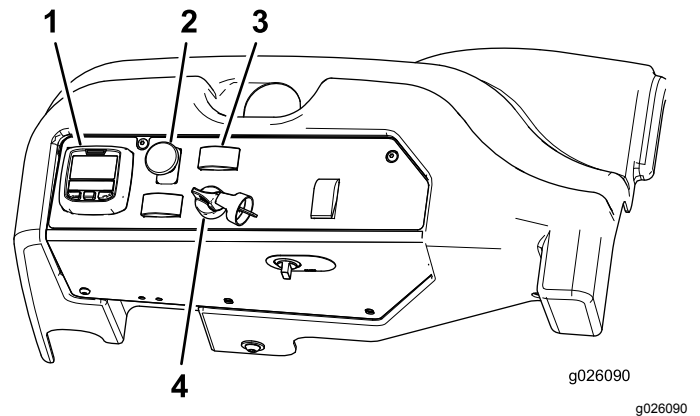

Figure 21
4. Move the power-takeoff (PTO) switch to the OFF position (Figure 21).